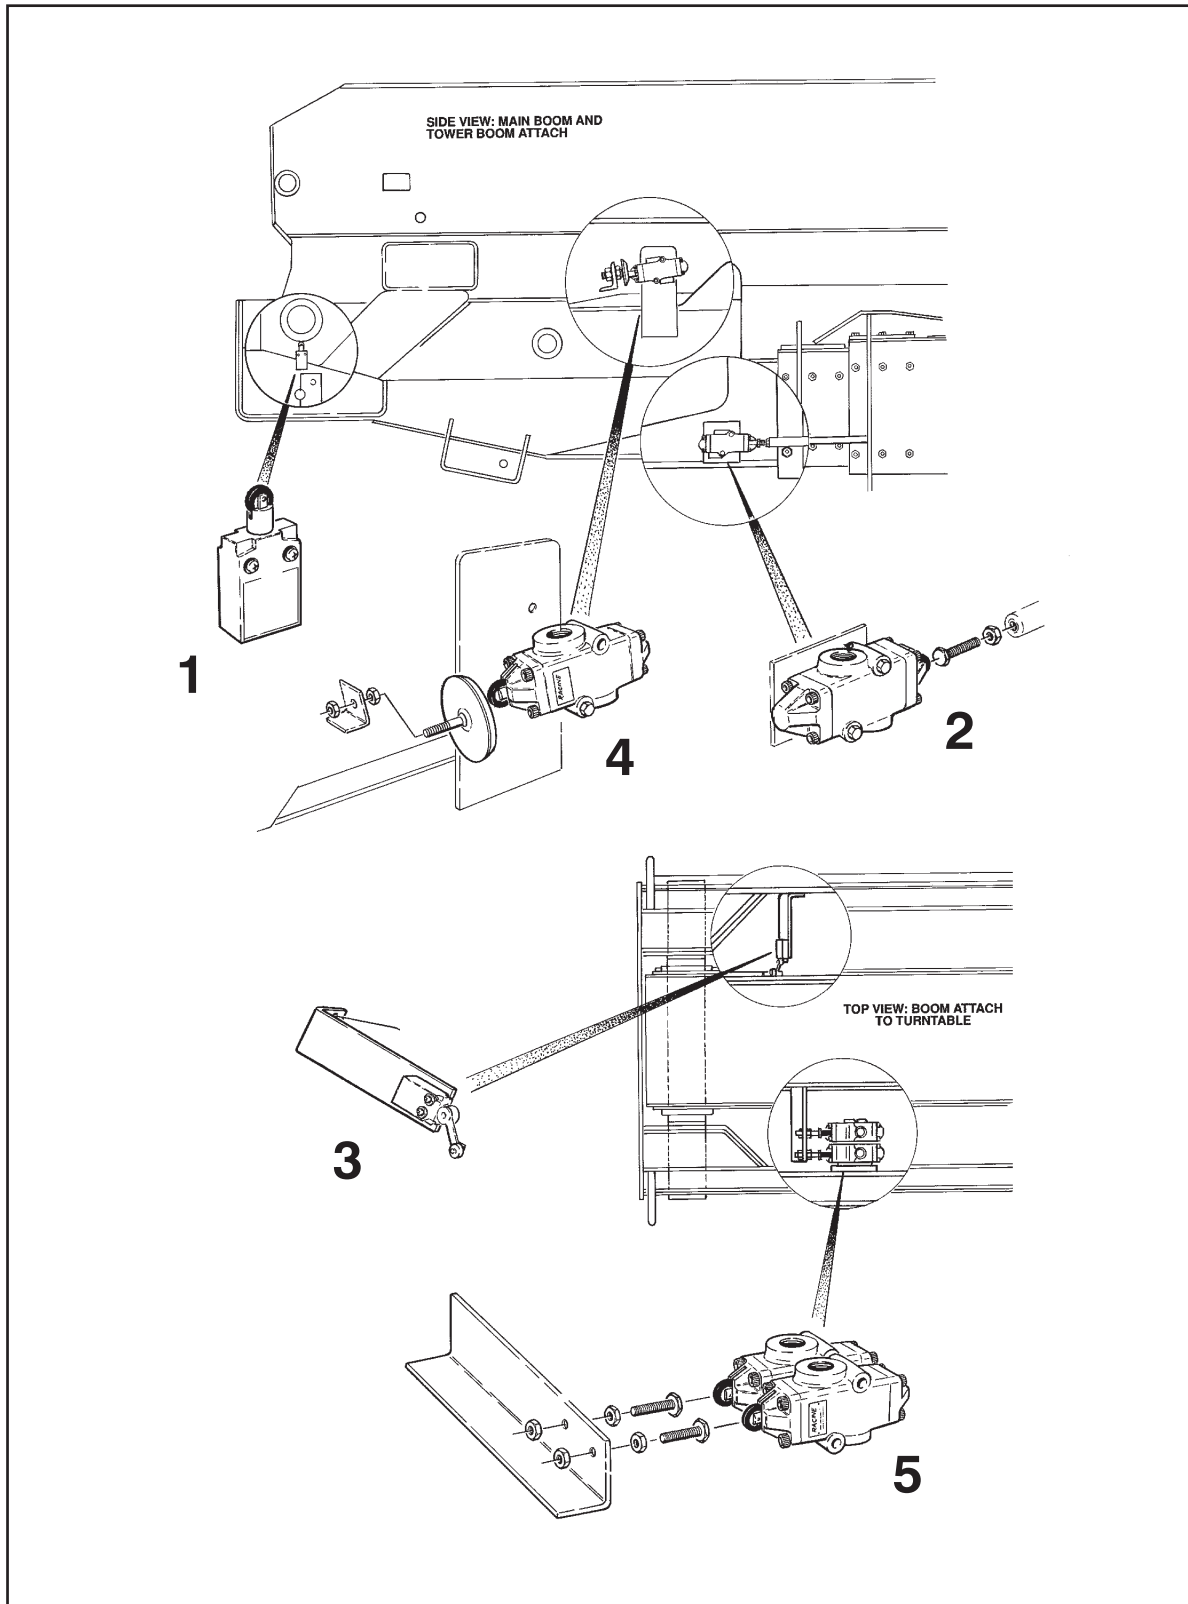

Figure 4-1. Boom Mounted Limit Switches and Valves Installation
**NOTE:** The numbers on the following descriptions correspond with the numbers in Figure 4-1., Boom Mounted Limit Switches and Valves Installation.